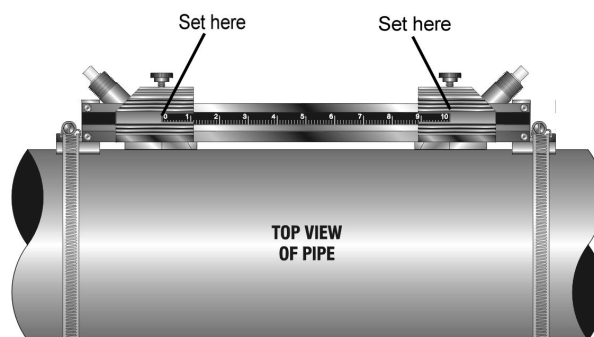

Figure 2.11 Transducer Space Measurement
4. Place the first transducer in between the mounting rails near the zero point on the mounting rail scale. Slide the transducer clamp over the transducer. Adjust the clamp/transducer such that the notch in the clamp aligns with zero on the scale. See Figure 2.11.